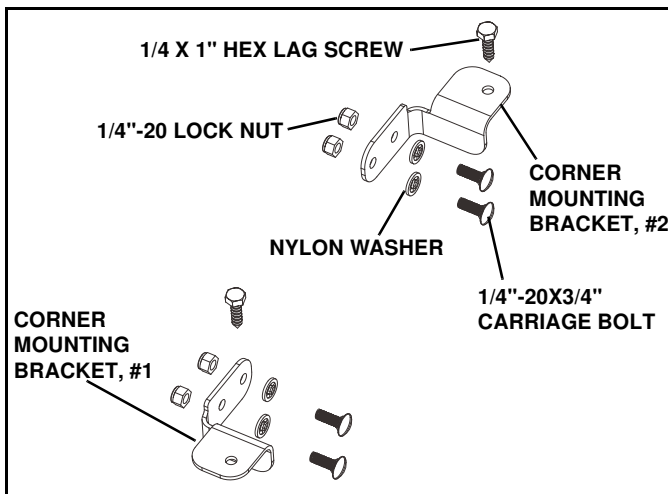

Figure 1-2
1. Locate the following parts. (See Figure 1-2)